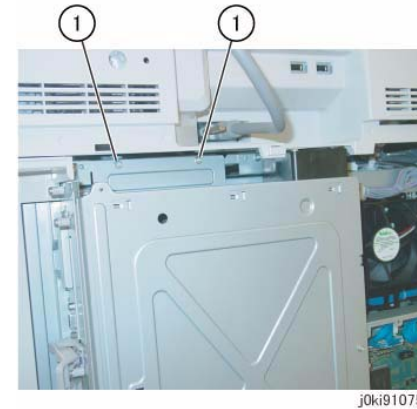

Figure 2 Remove the screws
7. Remove the screws that secure the PWB Chassis Unit. (Figure 2)